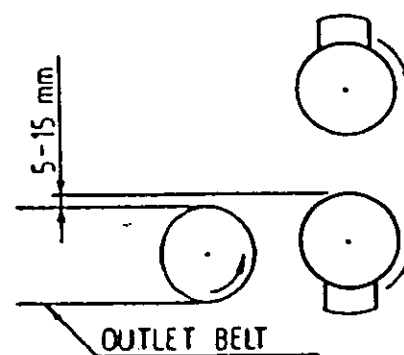

Fig. 18
- Vertical adjustment of the outlet belt at the cross sealing. See Fig 18: